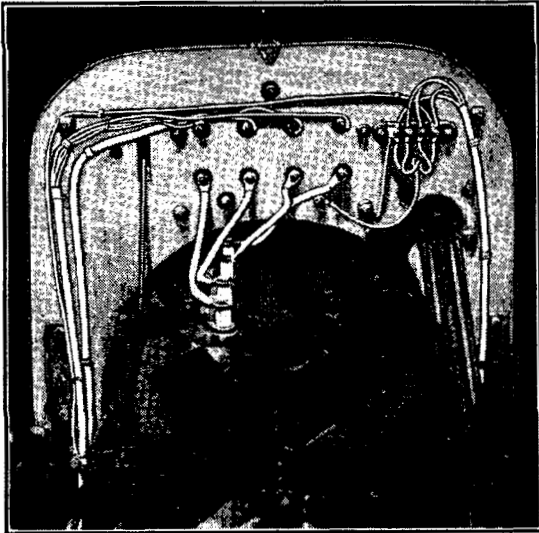

FIG. 16
2. Tack down the cable to dash as shown in Fig. 16, bending cable at the frame and running it forward to the generator.